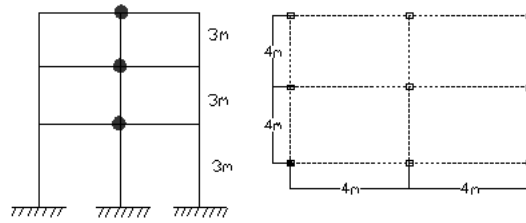

Figure 1
- The Plan and elevation of a three storey RCC school building is shown in Figure 1. The building is located in seismic zone V. The type of soil encountered is medium stiff and it is proposed to design the building with a special moment-resisting frame. The intensity of DL is 10 kN/m^2 and the floors are to cater to an IL of 3 kN/m^2 . Determine the design seismic loads on the structure by static analysis. [14M]